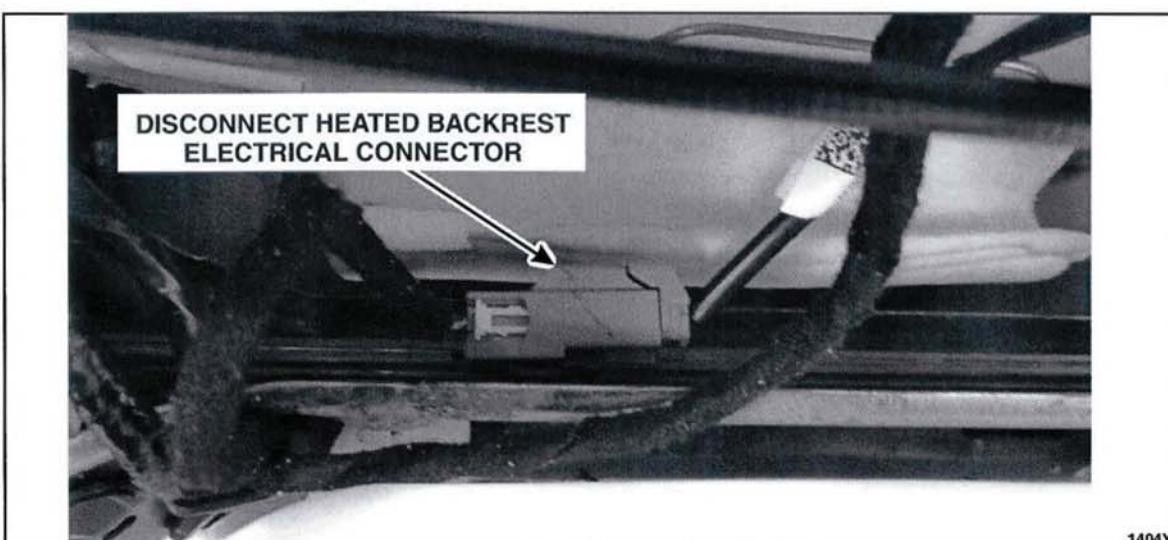

FIGURE 14
15. If equipped, disconnect the heated seat backrest electrical connector and detach the connector from the seatback frame. See Figure 14.
6. If equipped, connect the heated seat backrest electrical connector and attach the connector to the seatback frame. See Figure 14.